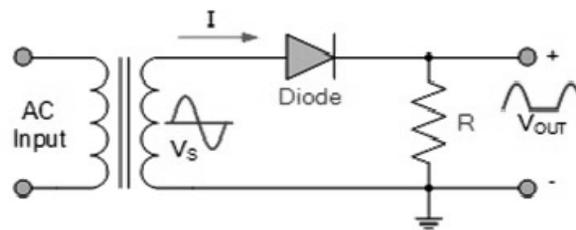

Figure 6.3: Circuit diagram of Half wave rectifier
1. Make the connection as per the circuit diagram shown in figure 6.3